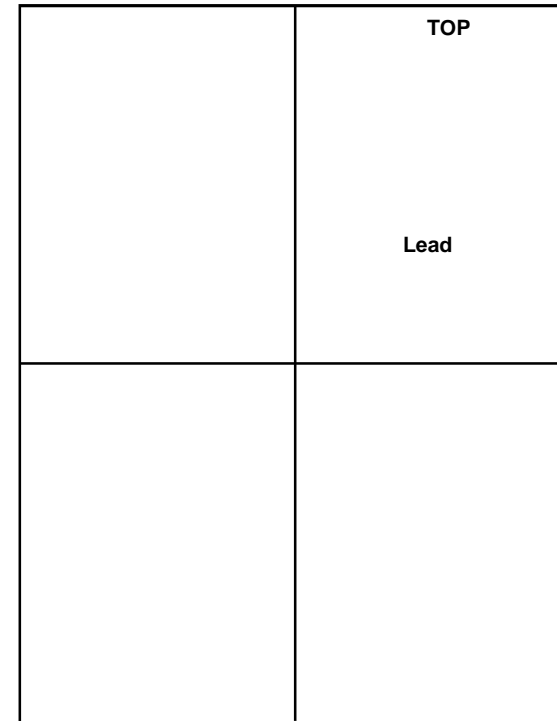

Figure 1 Creating a Test Pattern Original
1. To create a Cross Line Test Pattern Original, use a plain white sheet of 8.5x11" paper and fold the sheet precisely in half lengthwise and width wise. Then with a straight edge draw a straight line in the lengthwise crease and a straight line in the width wise crease. Label the top for orientation purposes. (Figure 1)